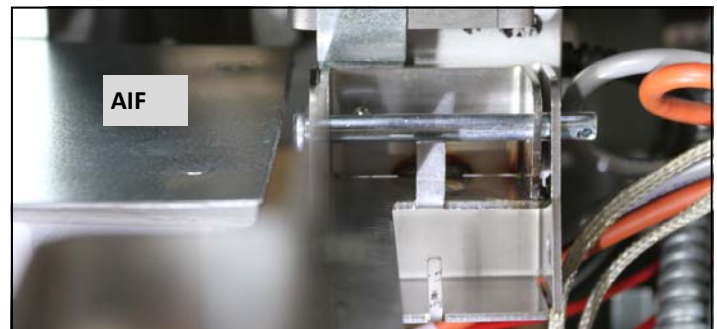

Figure 4: The AIF board (above left) must be lowered to allow placement of the bracket's pin.
5. In some cases, the AIF board must be lowered to make space for the new actuator bracket and pin. Loosen and lower the AIF board if necessary. **See Figure 4.** **NOTE:** Servicing an actuator behind the ATO box may require moving the ATO box to access the AIF board mounting screw.